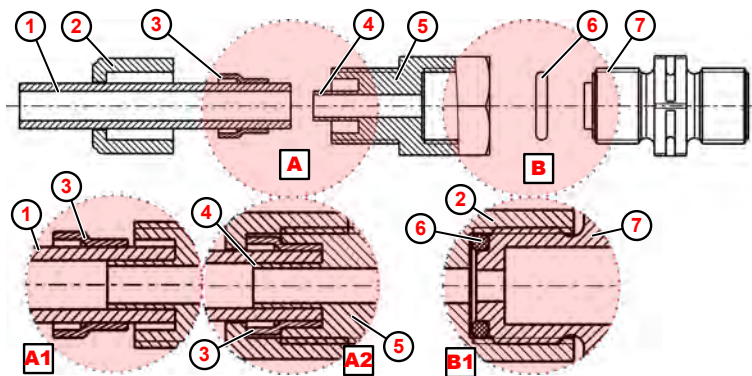

Fig. 17: Pipe and hose connection with integrated support sleeve
1. Place the o-ring (Fig. 17 , ⑥) in the groove of the suction or pressure valve ⑦ .
2. Tighten the screw connection ⑤ (for details, see B1).
3. Cut off the hose with a straight cut ① .
4. Slide the union nut ② over the hose ① .
5. Slide the clamping ring ③ over the hose ① .
6. Slide the hose ① over the support sleeve ④ until it engages (for details, see A1).
7. Tighten the screw connection ⑤ (for details, see A2).